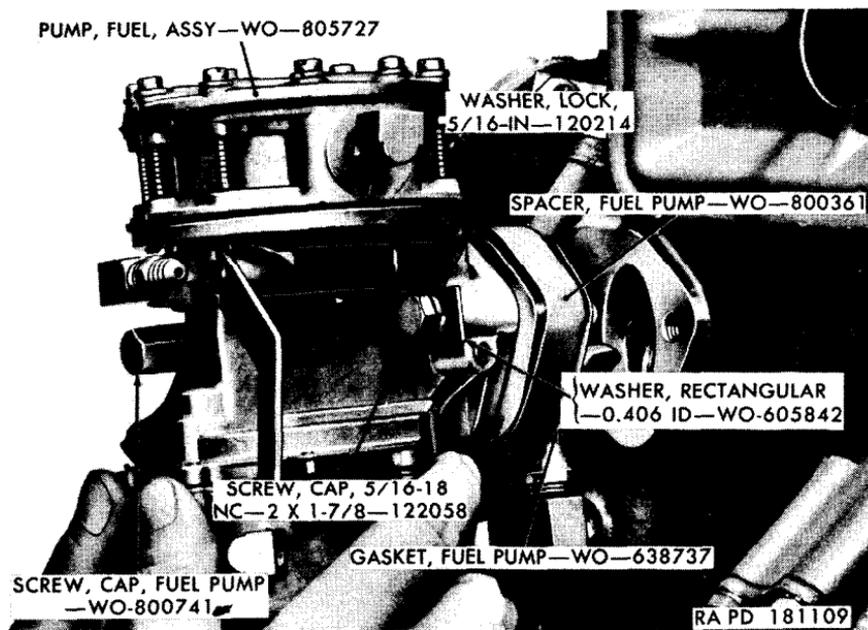

Figure 98. Installing fuel pump assembly.
b. Coat both sides of the two fuel pump gaskets (fig. 98) with plastic type gasket cement. Assemble a $\frac{5}{16}$ -inch lockwasher and the 0.406 ID rectangular washer onto the $\frac{5}{16}$ -18NC-2 x $1\frac{7}{8}$ cap screw. Assemble identical parts on the fuel pump cap screw and coat the threads of the cap screws with plastic type gasket cement. Insert the cap screws through the bolting flange of the pump as shown in figure 98. Assemble a fuel pump gasket, the fuel pump spacer and the second fuel pump gasket onto the cap screws as shown in figure 98, and install the fuel pump on the engine.